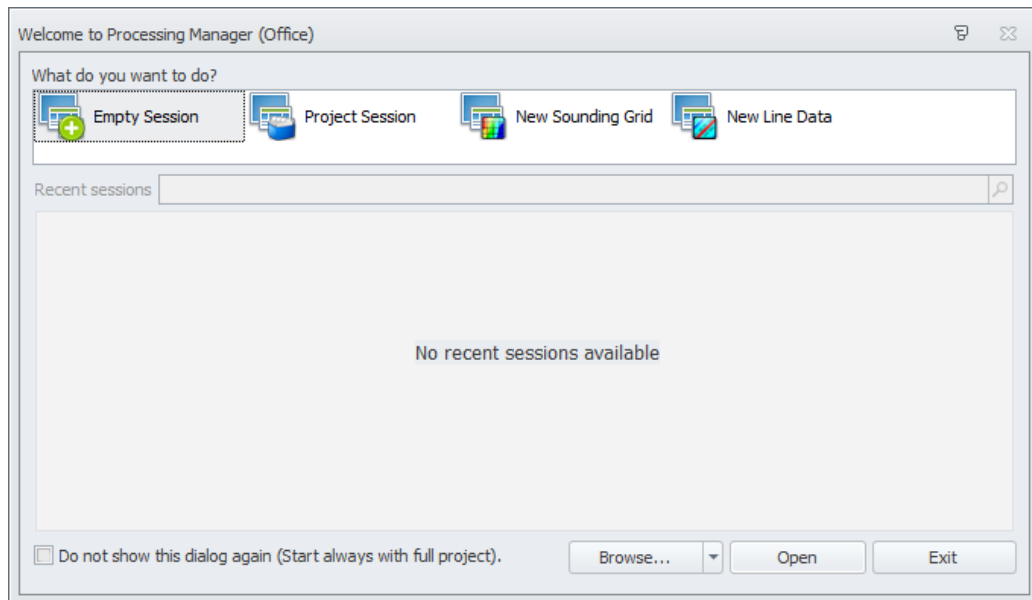

Figure 2.1 Choosing a way to open Processing Manager
1) Pass to the Processing Manager. When you enter it, a dialog box appears with a choice of the type of project (Figure 2.1). Choose "Empty Session".